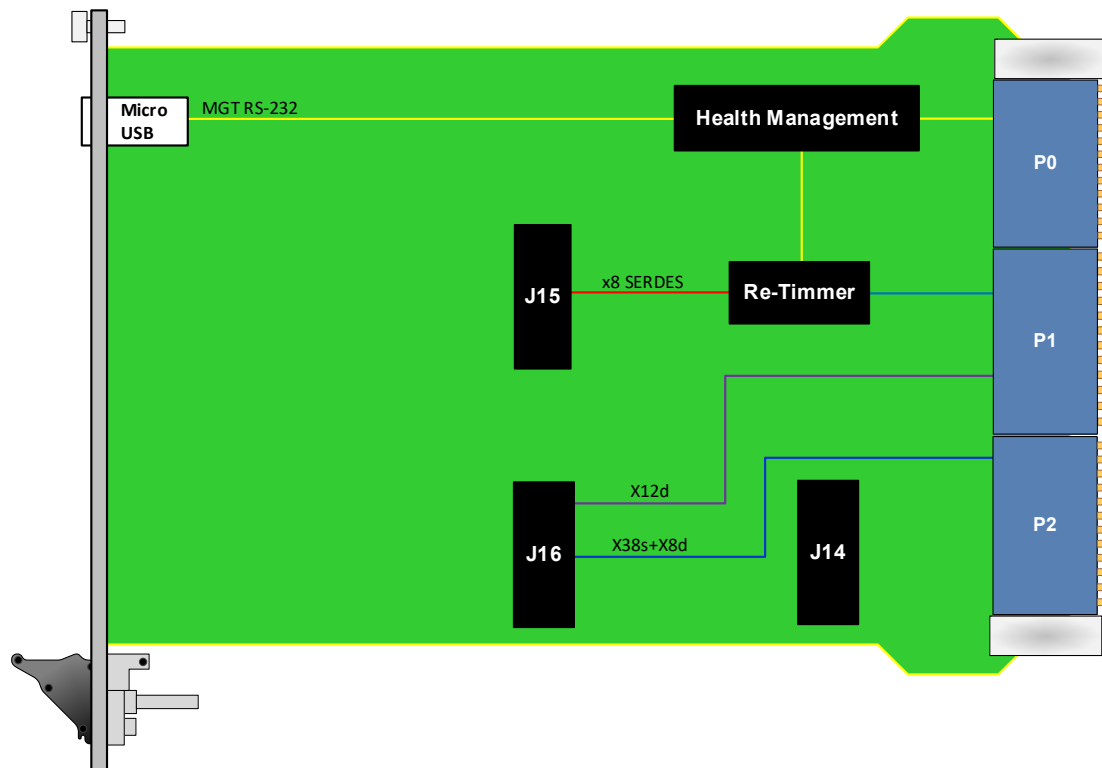

Figure 7: VPX102 Functional Block Diagram, Option C=5
- P1w13-X38s+X8d+X12d (Figure 7)